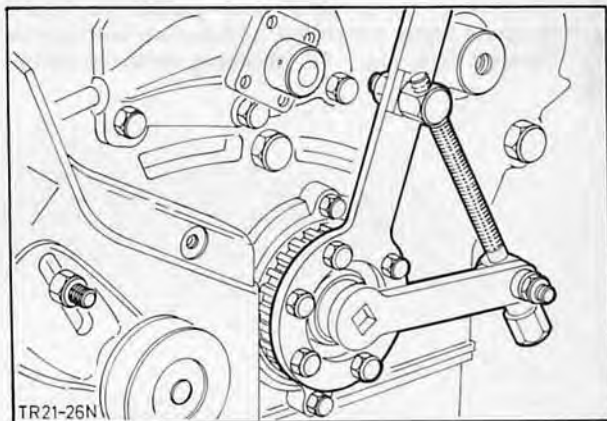

Fig. 146. Slacken crankshaft hub centre bolt using Special Tool 21-018/019
14. Slacken crankshaft hub centre bolt using Special Tool 21-018/19, Fig. 146 and remove bolt.